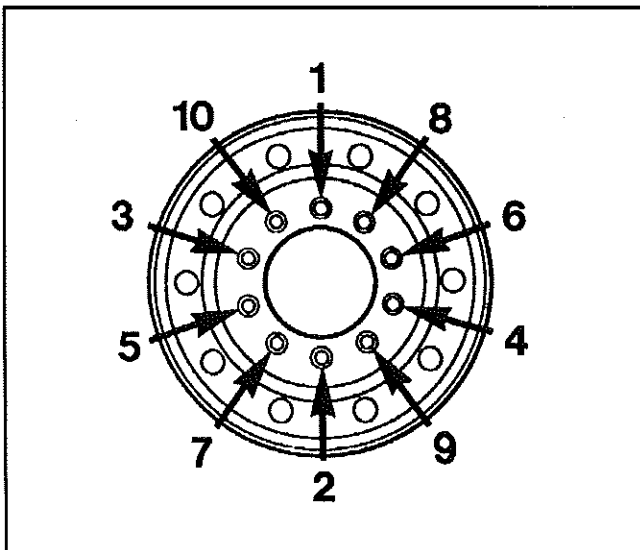
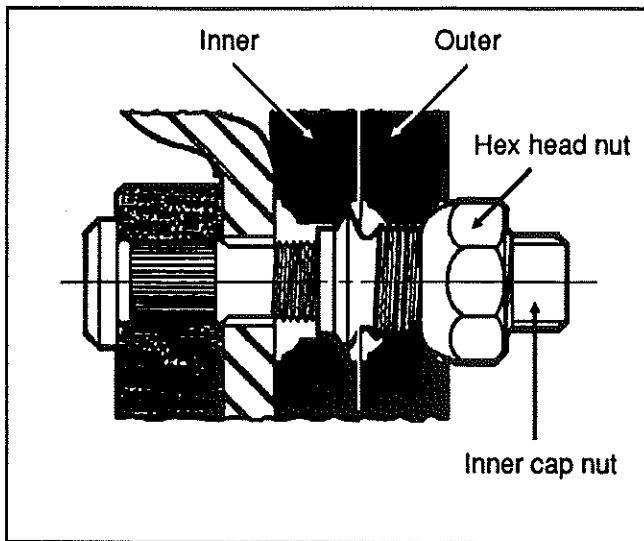

Fig. 1 - Tightening sequence
Fig. 2 - Dual wheel installation
It is also important that wheel stud nuts be tightened alternately on opposite sides of wheel. Refer to figure 1 for the suggested tightening sequence.
1. Run in lightly the hex stud nuts referring to figure 1 for sequence, so that wheel will position itself concentrically with hub. This is important, otherwise wheel may be eccentric with hub and will not run straight. In this initial step, run the nuts up only as necessary to correctly position wheel.
2. Tighten stud nuts progressively as shown in figure 1. The final tightening should be done with a torque wrench. Tighten stud nuts to 450 - 500 ft•lbs (610 - 680 N•m) for aluminum as well as steel wheel.
1. Run in lightly the inner cap nuts (shown in fig. 2) and refer to fig. 1 for sequence, so that wheel will position itself concentrically with hub.
2. Tighten inner cap nuts progressively according to sequence shown in figure 1. The final tightening should be done with a torque wrench. Tighten inner cap nuts to 450 - 500 ft•lbs (610 - 680 N•m) for aluminum as well as steel wheel.
Tighten the hex head nuts (shown in fig. 2) using the single wheel installation procedure described previously.
1. Loosen a hex head nut three turns (see fig. 2).
4. Repeat the 3 previous steps for each of the 10 "hex head nut - inner cap nut" assemblies according to the tightening sequence in figure 1.